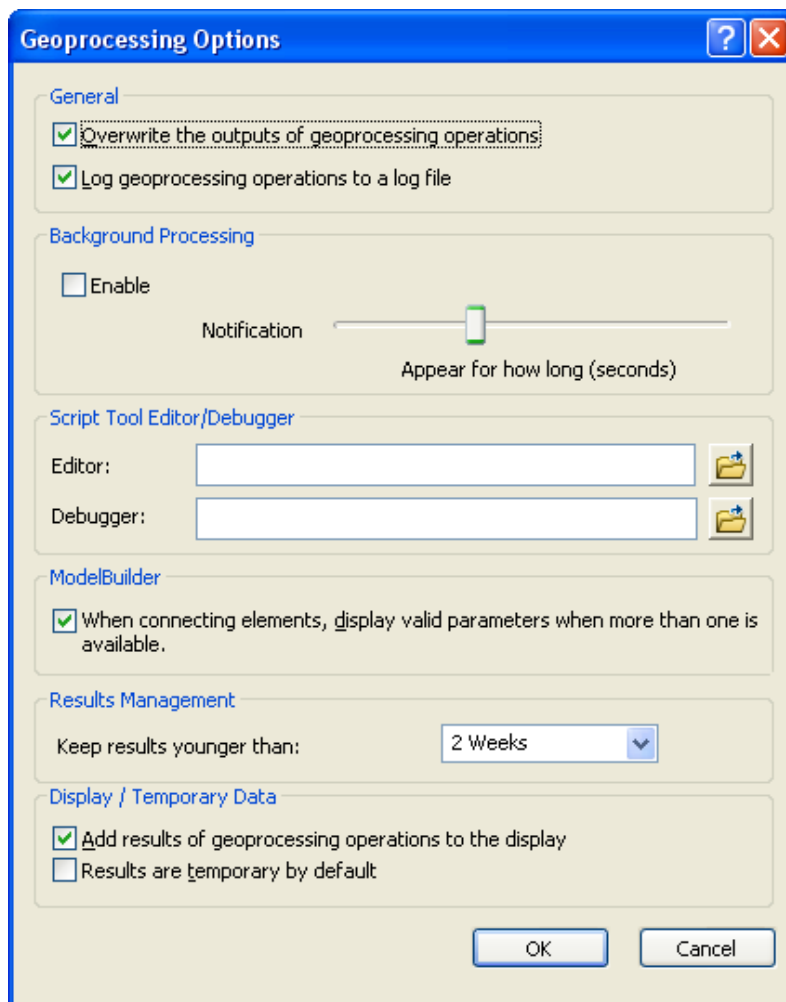

Figure 2 Setting Geoprocessing tools to overwrite outputs by default, and to add results of geoprocessing tools to the display.
7. Activate the option: “*Overwrite the outputs of geoprocessing operations*” as shown in Figure 2.
8. Enable the option to “*Add results of geoprocessing operations to the display*” as shown in Figure 2.